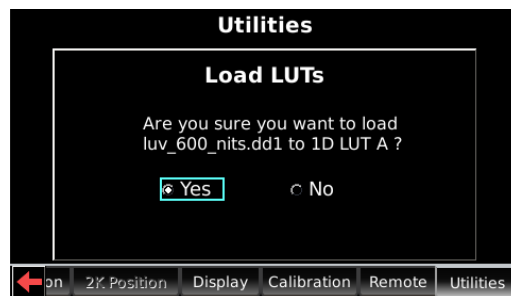

Figure 2-68 Load LUTs Confirmation Screen
A confirmation prompt appears, as shown in Figure 2-68.
2. Enter a four-digit code in the displayed data entry field using the Remote numerical keys, then press **ENTER** (see Figure 2-68).